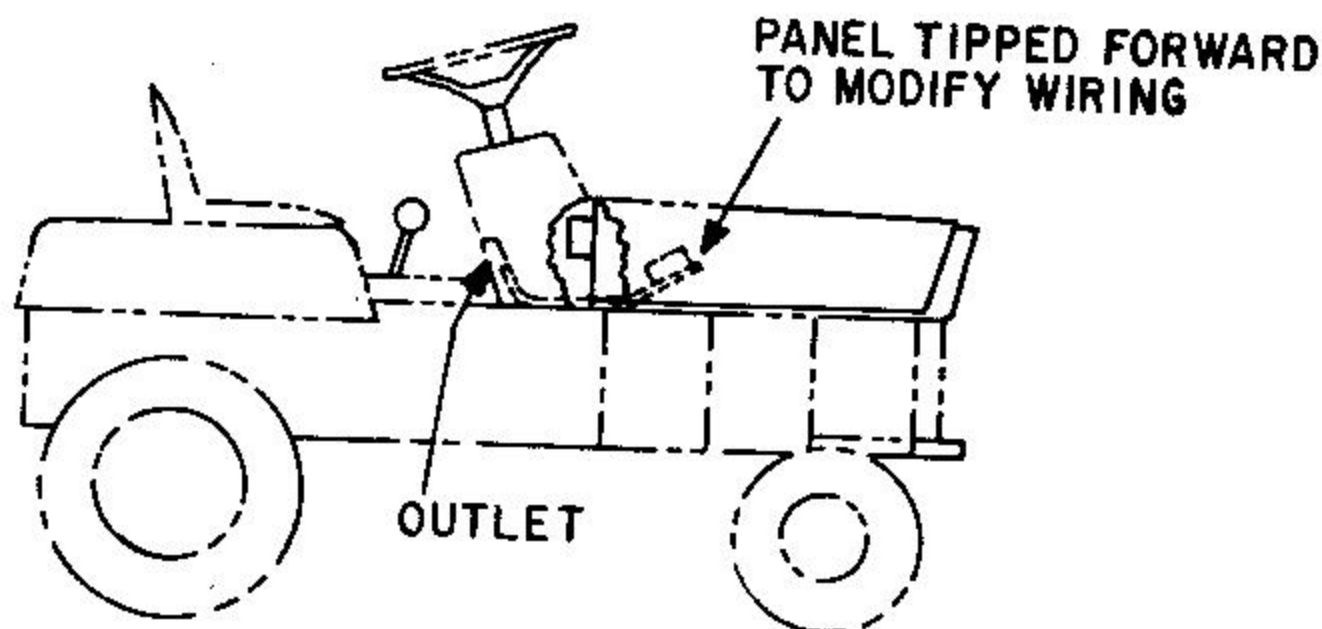

Figure 1
1. Allow the upper control panel to tip forward so its mounted components are exposed. See Figure 1.